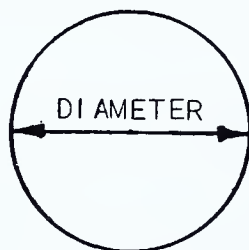

FIG. 241 — *Diameter*
**DIAMETER** — Fig. 241. The distance measured from one side of a circle across the center to the opposite side.